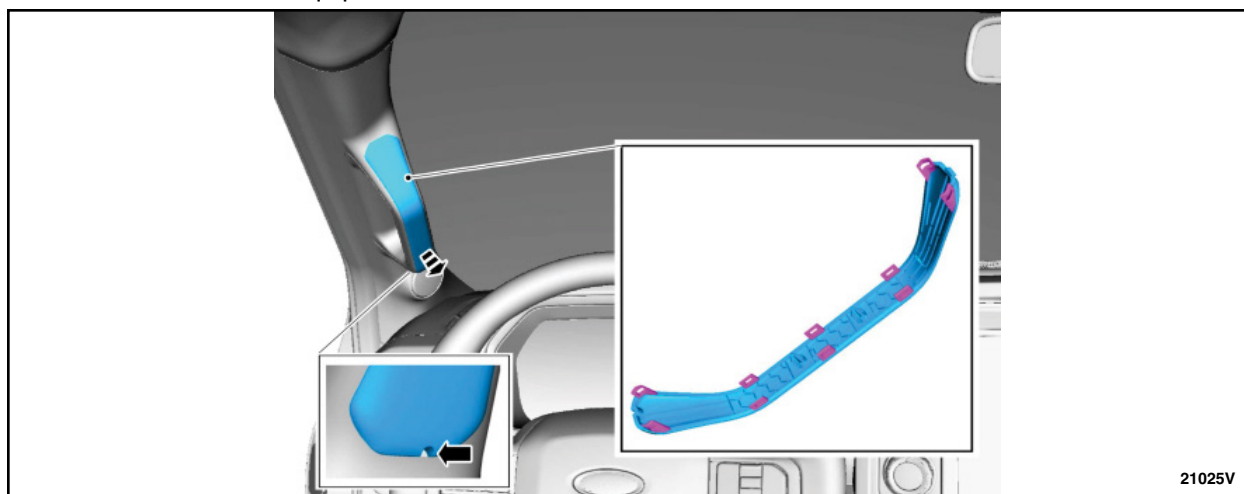

FIGURE 13
13. Release the tabs and remove the assist handle cover. See Figure 13.